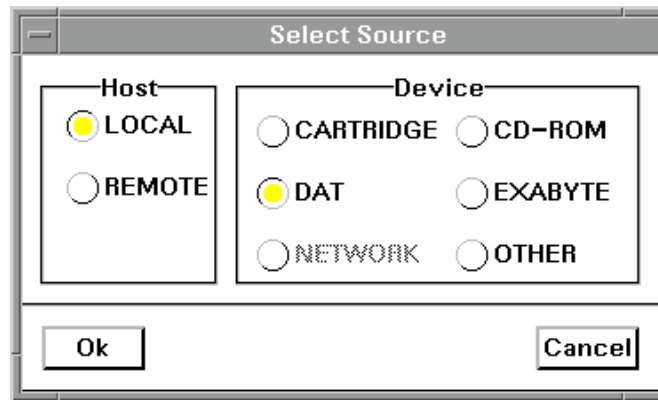

Figure 19. Select Source Window
Used to display the currently selected installation media. Click on the `Select Source` button to open the `Select Source` window (Figure 19). This window allows you to select the installation source device. The device selection defaults to the DAT drive on the local machine (the `LOCAL` option in the `Host` panel and the `DAT` option in the `Device` panel).
- STEP 1: **Select the installation device.** Click on the `Select Source` button in the `Source` panel to open the `Select Source` window (Figure 19). Select the device to use as the installation source device. Select `NETWORK` if you are installing a segment from the segment installation server. Refer to Section 6.4.2, *Segment Installation Server Option*, for information about loading segments on the segment installation server.
- STEP 2: Select the installation device.** Click on the `Select Source` button in the `Source` panel to open the `Select Source` window (Figure 19). Select the installation source device and then click on the `OK` button.